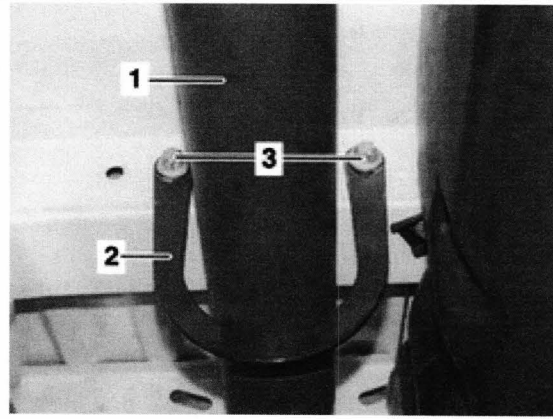

Figure 1 (1 Drive shaft, 2 Drive shaft strap/loop, 3 Bolts)
-  Retrofit drive shaft strap/loop (2, Figure 1) to cross member with mounting bolts (3).